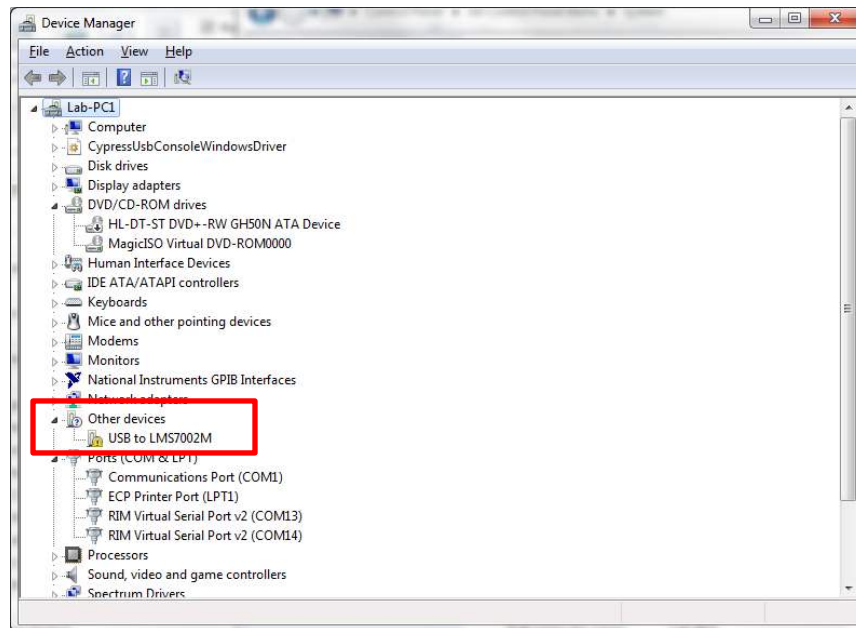

Figure 41 Device Manager content
3. Locate **USB to LMS7002M** under **Other devices** and press right click to select **Properties**, see *Figure 41*.